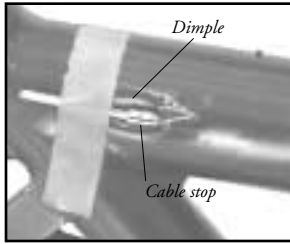

Fig. 13
1. With a hammer, lightly tap a punch, broad blade screwdriver, or similar tool (Fig. 14) against the cable housing stop (Fig. 13) until it sits flush with the frame dimple.